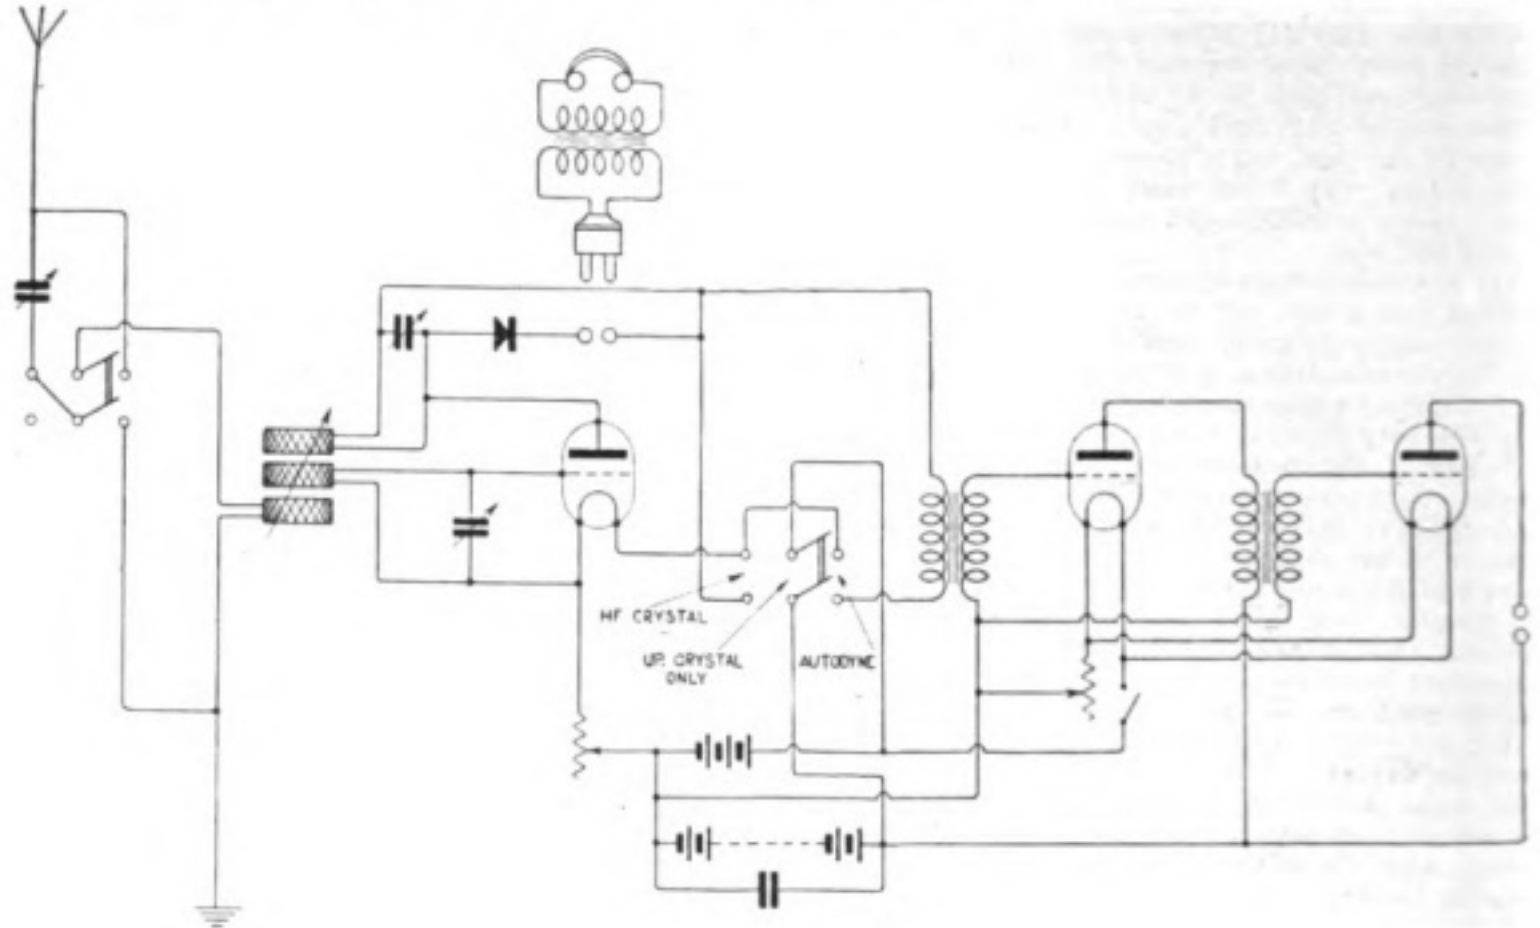

Fig. 3.
"F.P.O." (Liverpool) asks for a diagram arranged with switches for effecting (a) A.T.C. series parallel; (b) L.T. and H.T. on and off; (c) Crystal reception only, valve H.F. magnifier followed by crystal rectifier. For circuit see Fig. 3.
(1) Zincite-bornite does not require a local potential. In general the crystals which require applied local potential are more steady but somewhat less sensitive than those which do not need it. (2) The circuit appears O.K. and we can suggest no reason from the diagram for it not working, except
that 4 volts is rather a low value for the filament battery for this valve. (3) See Fig. 3, page 501, July 15th issue, for a suitable circuit. (4) Tuning can be carried out by a variable shunt condenser, or by a variometer action between two coils connected in series.